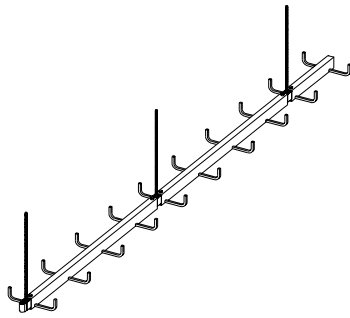
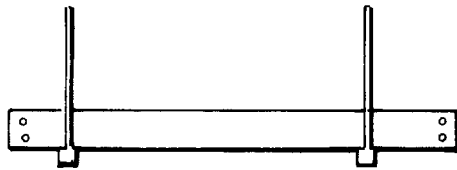
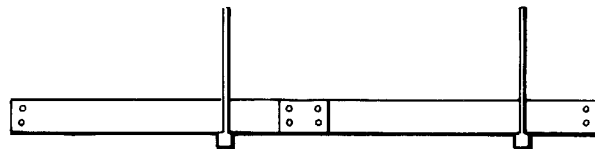

Figure 4.6A
Figure 4.10B
Figure 4.10C
4.2.1.6 Single Rail Cable Tray Hangers (See Figures 4.6A through 4.6C)
For single rail cable tray see Figures 4.6A, 4.7D, and 4.7E.
To begin, place a straight section across two supports so that the ends of the section are not directly on the support (Figure 4.10B). If the support span is equal to the length of the straight sections, bolt two pieces together for this step (Figure 4.10C). **The support span should not be greater than the straight section length or as recommended by the manufacturer, to ensure no more than one splice is located between supports.** As a general practice, avoid placing splice plates over supports or at mid-span. However, certain cable tray systems (see Figure 4.6A) and certain splice designs allow for random splice location. See manufacturer for details.